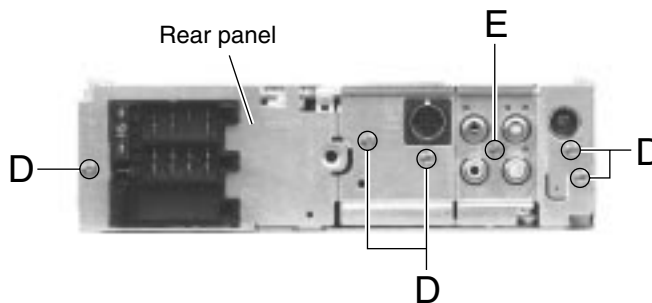

Fig. 7
■ **Removing the rear panel (See Fig.7 )**